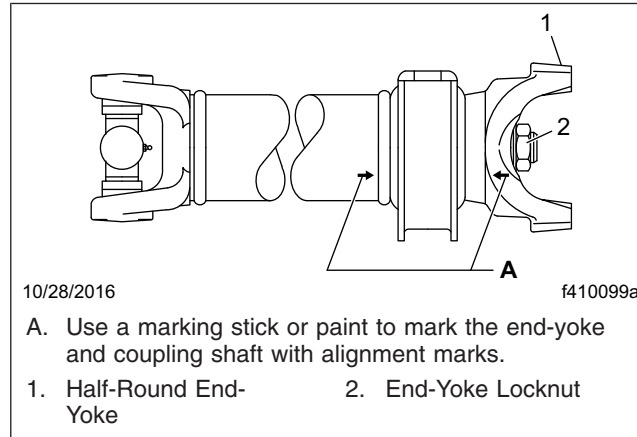

Fig. 6, Alignment Marks on a Coupling Shaft With an End-Yoke
4. Install the end-yoke. See Fig. 6.
- 4.2 Align the marks added to the coupling shaft and end-yoke during removal, then place the end-yoke on the shaft so the yoke bores are aligned at both ends of the shaft. See Fig. 6.